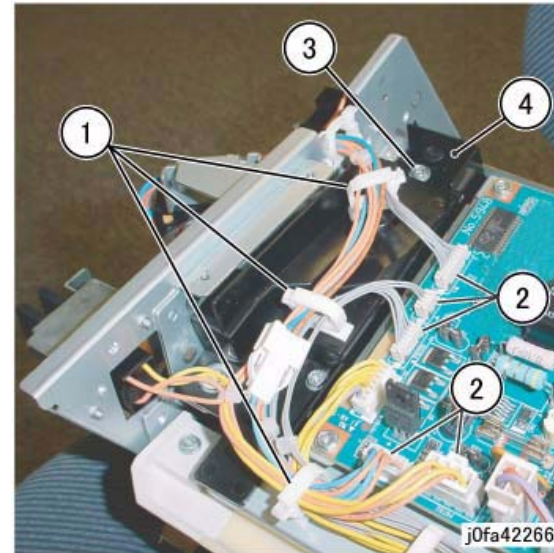

Figure 1 Removing the Connector Bracket
5. Remove the Connector Bracket (Figure 1):